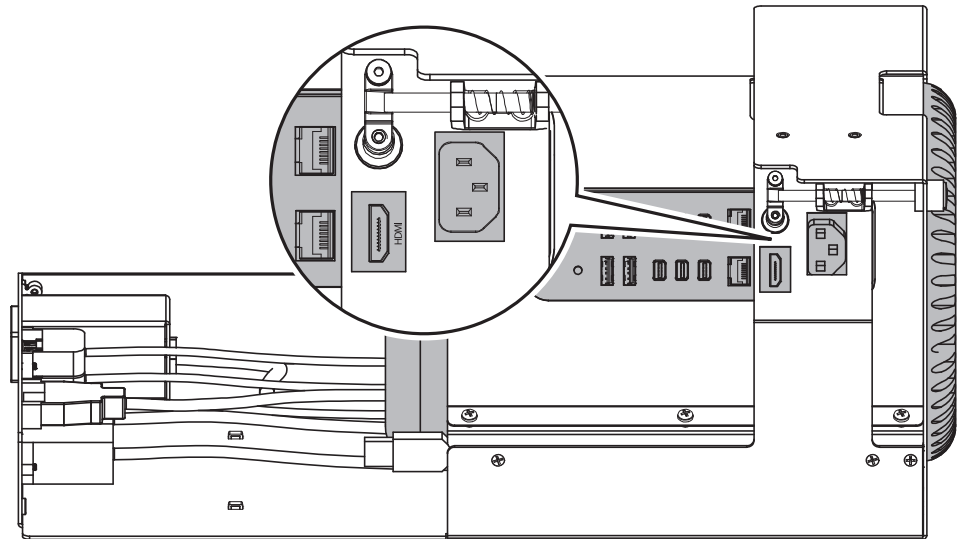

Figure 10
- Adjust the Mac Pro within the computer mounting module so that its power and HDMI ports are centered in the bracket openings (Figure 10).